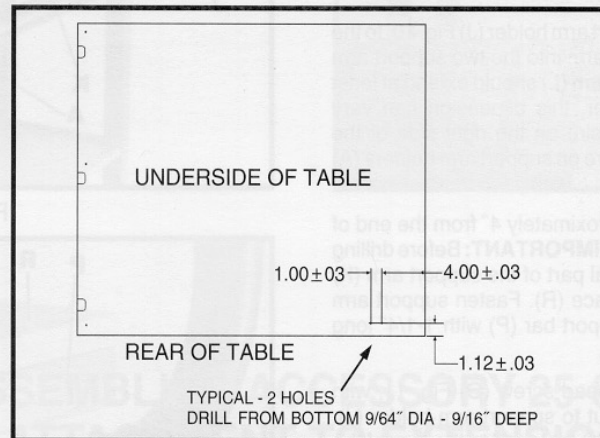

Fig. 5
1. Drill two 9/64" diameter holes (9/16" deep) in the underside of the table at the locations shown in Fig. 5.